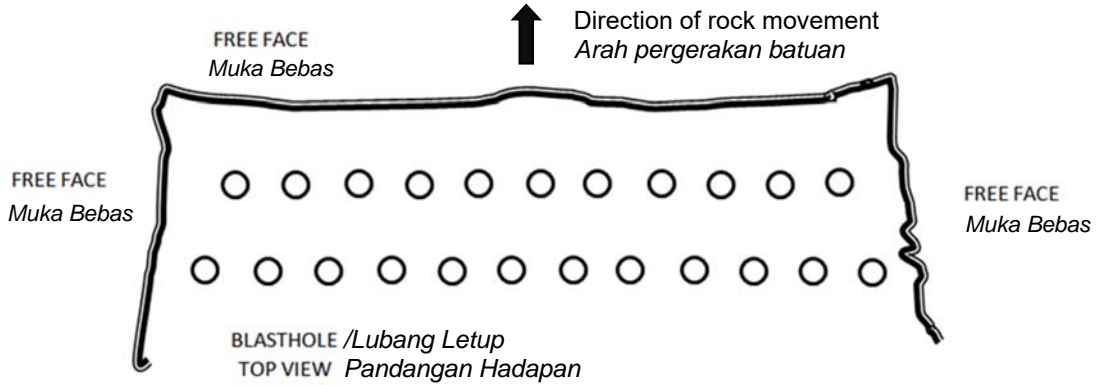

Figure 1/ Rajah 1
(i). **Maximum** of two (2) holes per delay (Figure 1).